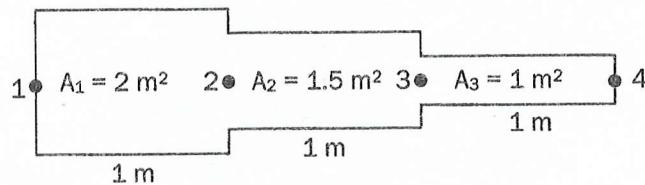

Figure Q4[a]
- Q4. [a]** For the smooth pipe of variable cross section shown in Figure Q4[a], determine the nodal fluid heads or potential at the junctions, the velocities in each section of pipe and the volumetric flow rate. The nodal fluid heads or potential at the left end is $p_1 = 15 \text{ m}^2/\text{s}$ and that at the right end is $p_4 = 1 \text{ m}^2/\text{s}$.